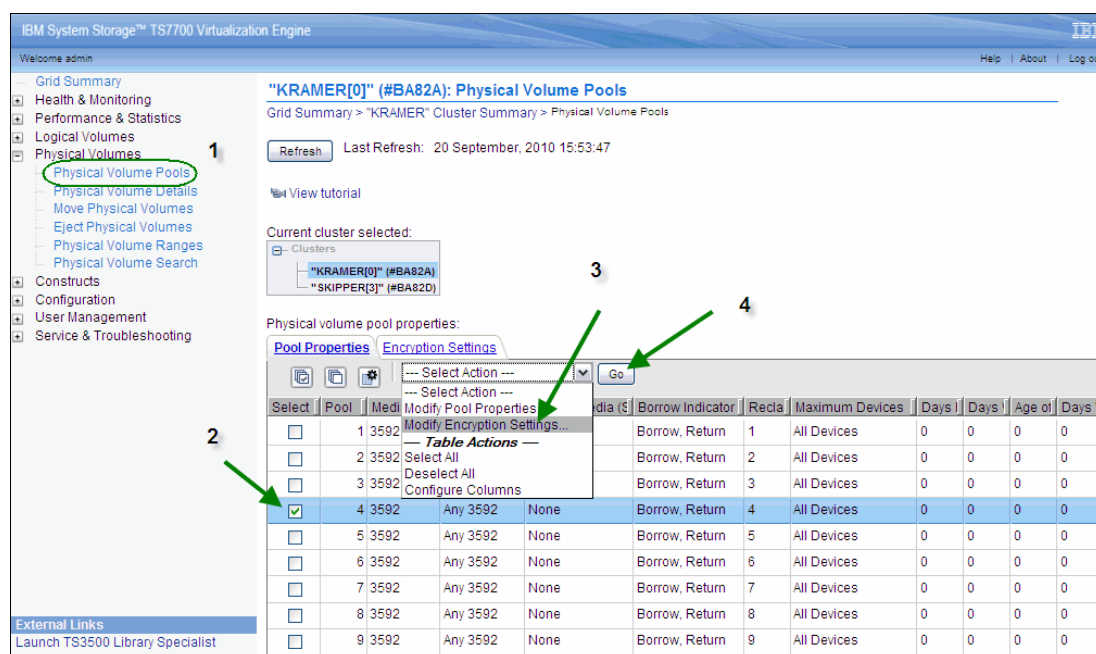
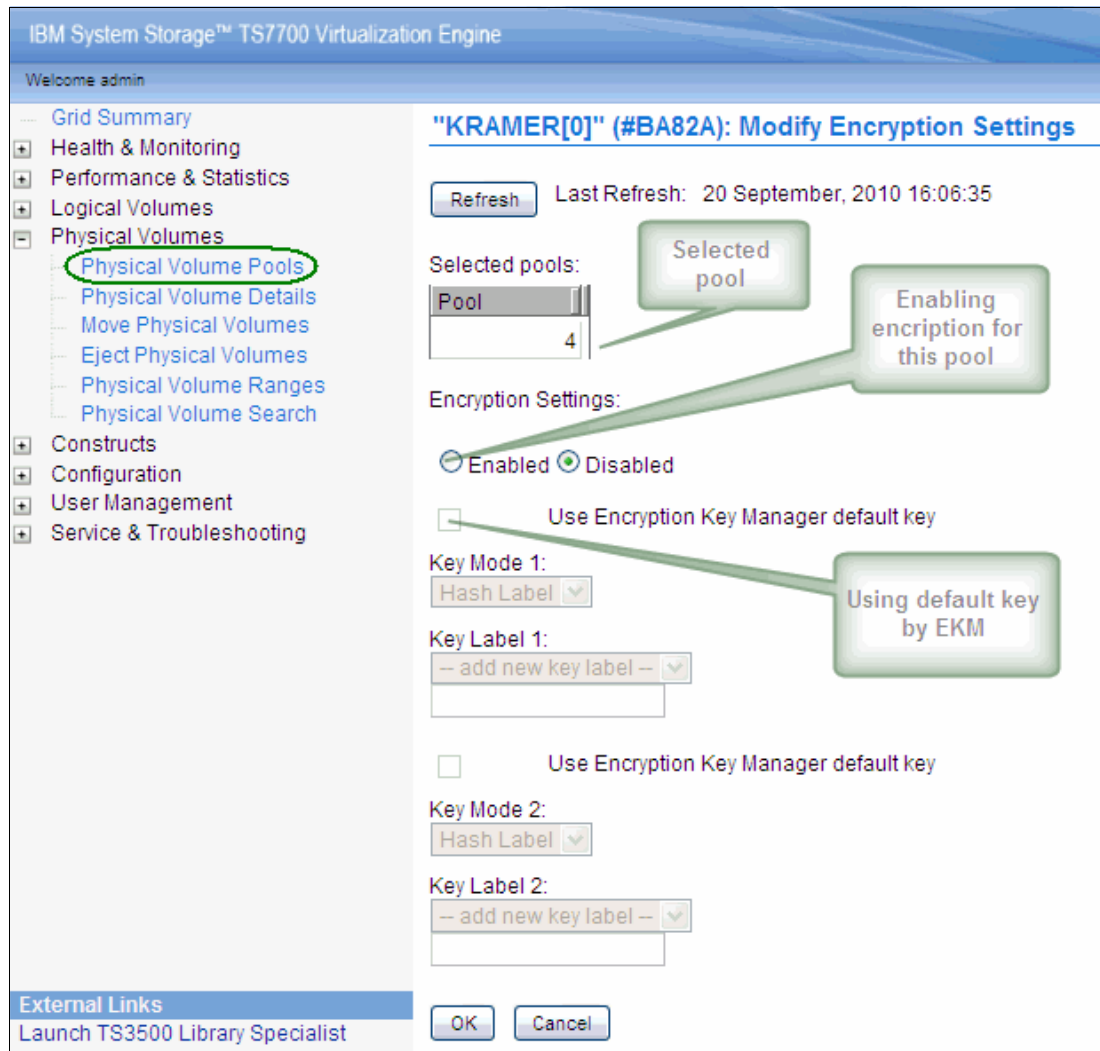

Figure 4-26 Modifying encryption parameters for a pool
Figure 4-27 Modify encryption settings parameters
To modify encryption settings for one or more physical volume pools use the following steps (and see Figure 4-26 and Figure 4-27 on page 211 for reference):
1. Open the Physical Volume Pools page (Figure 4-26)
The Modify Encryption Settings page opens (Figure 4-27 on page 211).